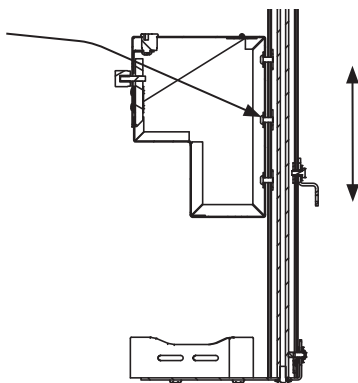

Fig. 6
- A. Open the lock box and loosen the bolts with a  $7/16$ " socket and extension wrench to adjust the box up or down as needed. (Swivel attachment is required) Install supplied black felt over bolts when box position has been fixed. (See Fig. 6)